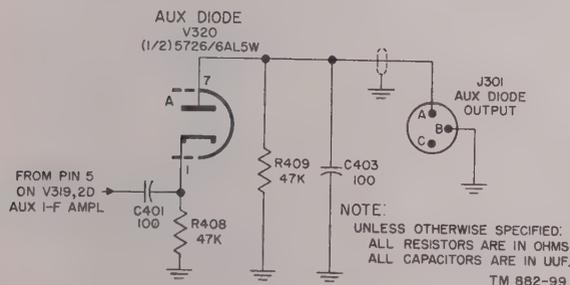

Figure 64. Auxiliary diode.
c. *Auxiliary Diode* (fig. 64). One-half of a twin diode, V320, is used as an auxiliary detector; connections are made between pins 1 and 7. The other half of the tube is not used. R408 is the auxiliary diode cathode resistor. (For detector operation, see par. 71). The signal from the second auxiliary i-f amplifier, V319, is coupled to V320 through C401 and the output voltage from V320 is developed across R409 and C403. The rectified output of approximately 5 volts is available at J301, the aux diode output jack on the rear apron of the main unit for an r-f signal input of approximately 2 uv (microvolts).